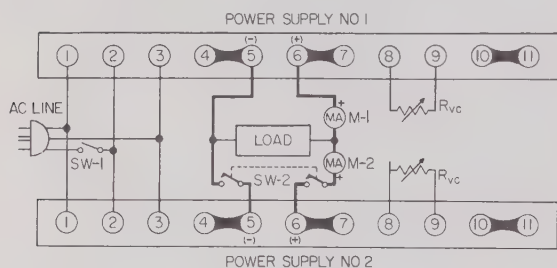

FIG. 3-11 PARALLEL CONNECTION OF PBX SUPPLIES
3.41 Procedure (Refer to Fig. 3-11)
a) Connect units as shown in Fig. 3.11. Open SW-1 and SW-2 and connect to line.